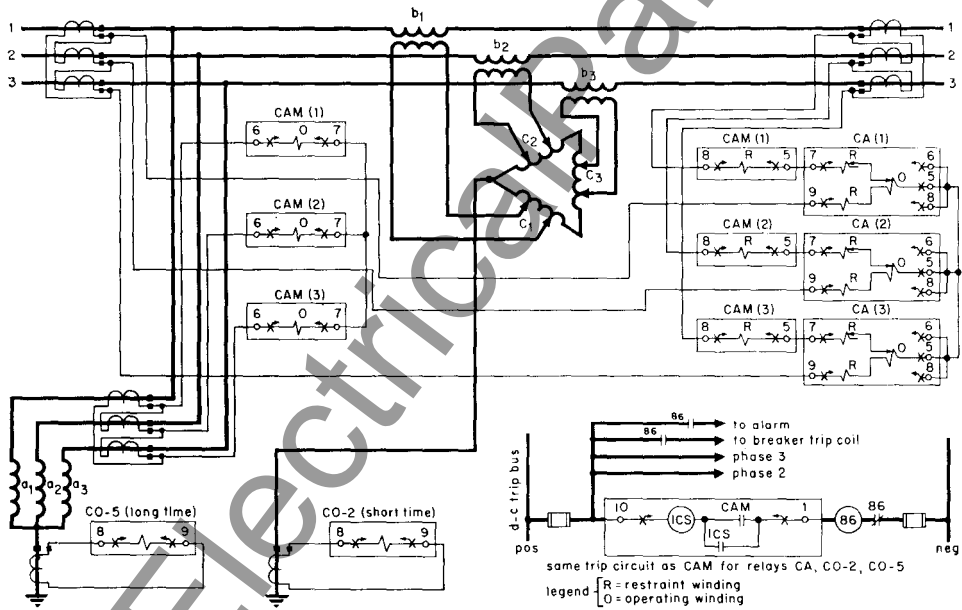

fig. 65: External wiring using CAM, CA, and CO relays to protect regulating transformers.
- (b) **grounded neutral:** Both sets of current transformers should be connected in delta to prevent zero sequence currents from operating the CAM relay for external ground faults. However, should external relays fail to operate, a prolonged flow of zero sequence current in the exciting windings can be prevented by the addition of a type CO-5 long time overcurrent relay. Such a scheme is shown in figure 65.